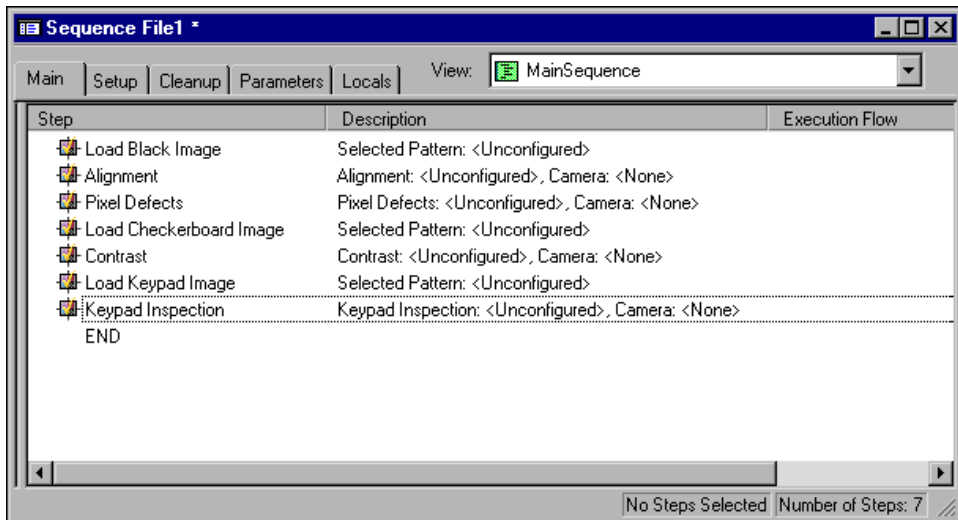

Figure 2-6. Example Test Sequence
3. Add the following steps in order. When you are finished, the sequence editor should look like Figure 2-6.